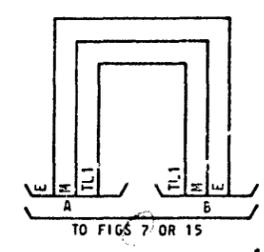

FIG 9
- 62- FOR T1 CARRIER, CONDUCT THE FIRST E AND M SIGNALING LEAD CHANNEL UNIT OF EACH SYSTEM ASSIGNED TO A 2-WAY TRUNK TO THE SERVICE RESTORAL CIRCUIT PER FIGURE 9. SPECIAL SERVICE, PRIVATE LINE AND OTHER NONATTACHED CIRCUITS MUST NOT BE USED FOR SERVICE RESTORAL CIRCUITS.